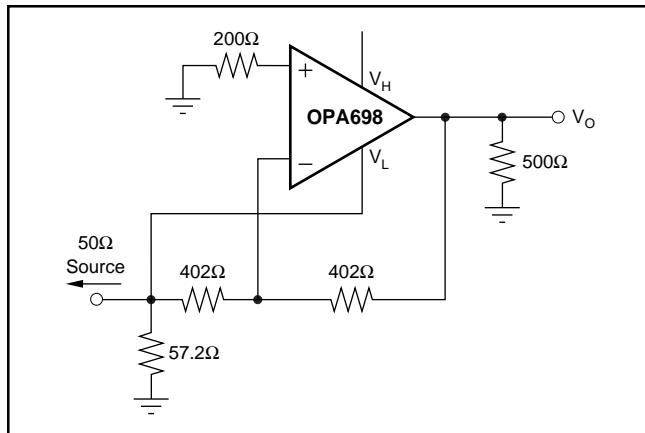
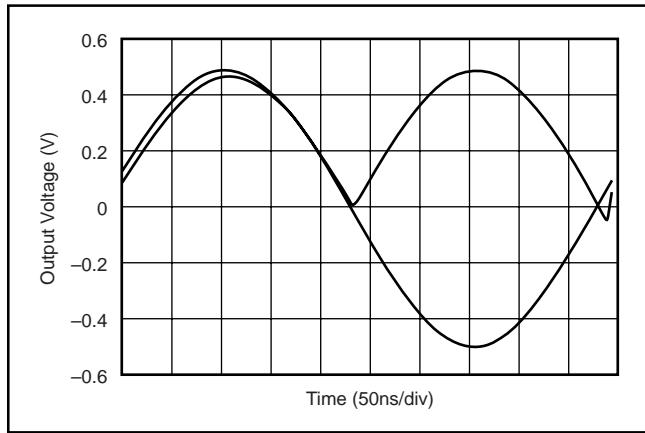

FIGURE 9. High-Speed Full Wave Rectifier #1.
FIGURE 10. 2MHz Sinewave Rectified.
(7) Limiter feedthrough is the ratio of the output magnitude to the sinewave added to  $V_H$  (or  $V_L$ ) when  $V_{IN} = 0$ .
(9) Linearity Guardband is defined for an output sinusoid ( $f = 5\text{MHz}$ ,  $V_O = V_{CM} \pm 1V_{PP}$ ) centered between the limiter levels ( $V_H$  and  $V_L$ ). It is the difference between the limiter level and the peak output voltage where SFDR decreases by 3dB (see Figure 9).
The circuit shown in Figure 9 uses only one amplifier, in an inverting gain of  $-1$  configuration. The upper limiting voltage is left open, resulting in an upper limiting voltage of  $+3.5V$ . The lower limiting voltage is connected to the input signal, resulting in the following behavior. When the input voltage is negative, the amplifier is not limiting, resulting in the inversion of the input sinewave to the output. During the positive excursion of the input signal, the output signal is being driven by the limiting input pin. Since the output is driven from the limiter input pin from positive inputs, the lower slew rate in the input path restricts the application of this approach to lower amplitude and/or frequencies. A 2MHz fully rectified sinewave is shown in Figure 10.